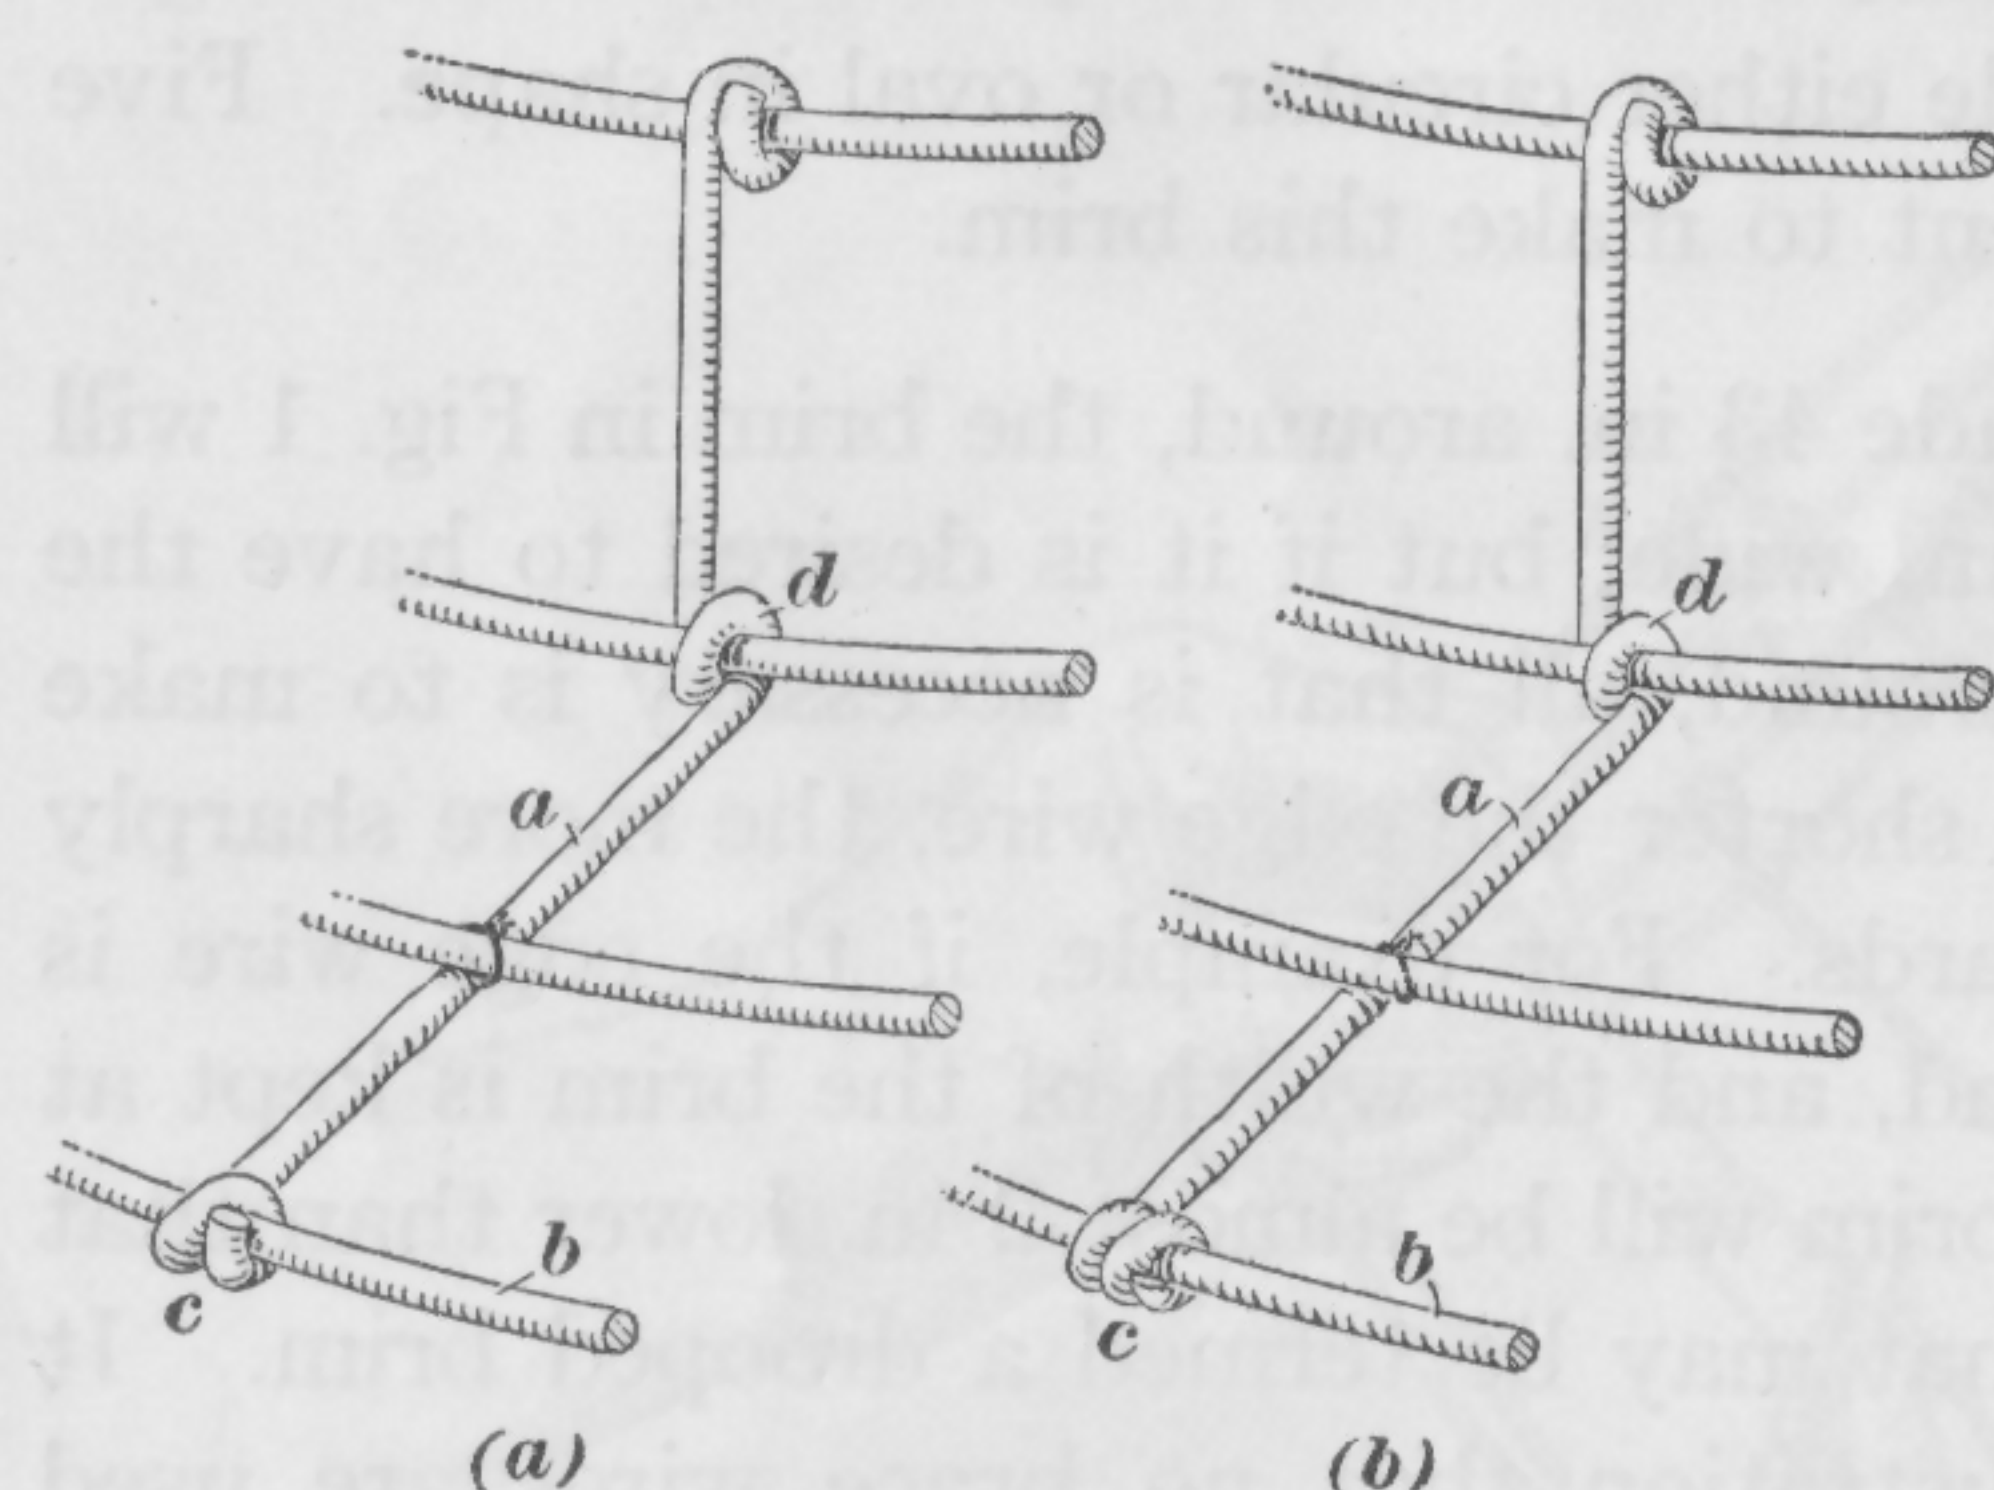

FIG. 5
**8. Method of Shortening a Wire.**—Another error that may very easily occur in making a frame is that of getting a support wire too long. This is illustrated in Fig. 5 (*a*), in which the support wire *a* has been twisted around the edge wire *b* at *c* and cut off, after which